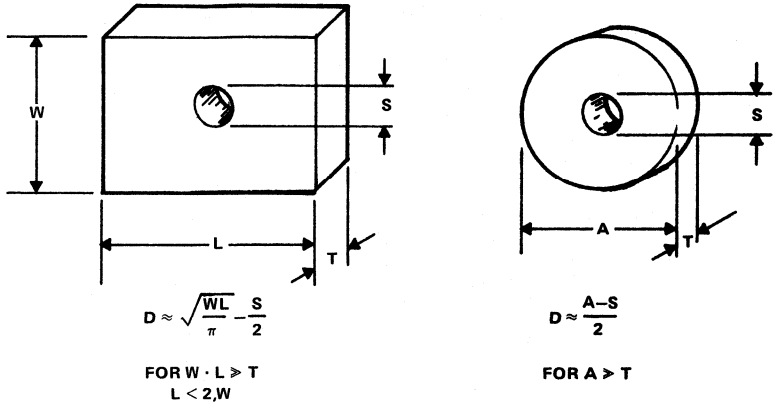

Figure 5.8. Determining "D" for Use with Figure 5.10
4. Determine factor D for the heat sink, using Figure 5.8.